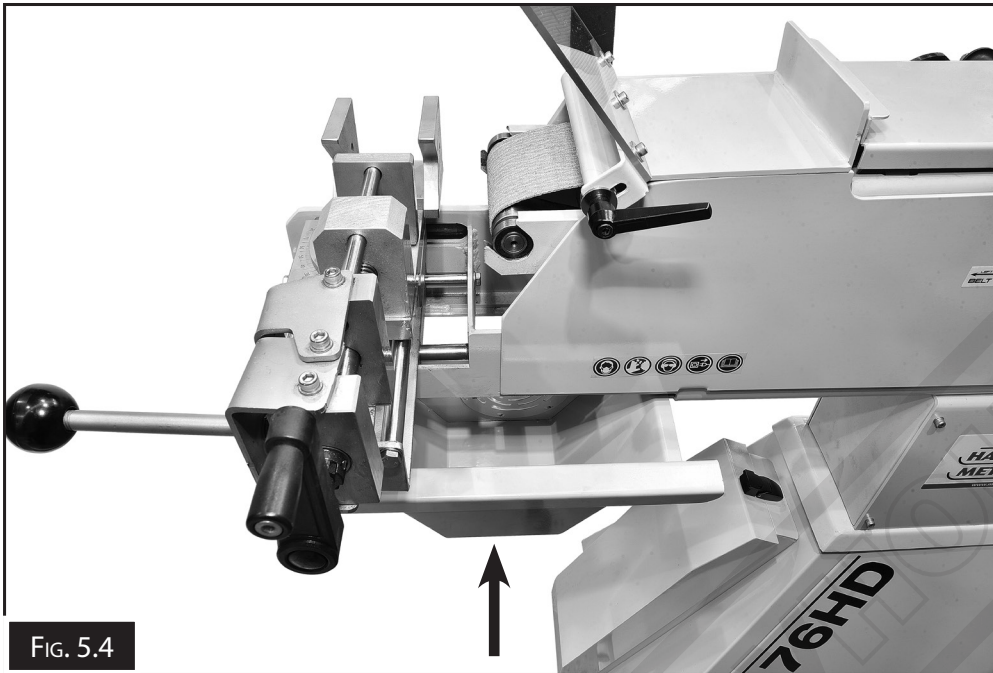

FIG. 5.4
13. Slide the spark trap in from the right side of machine as shown in (FIG. 5.4).